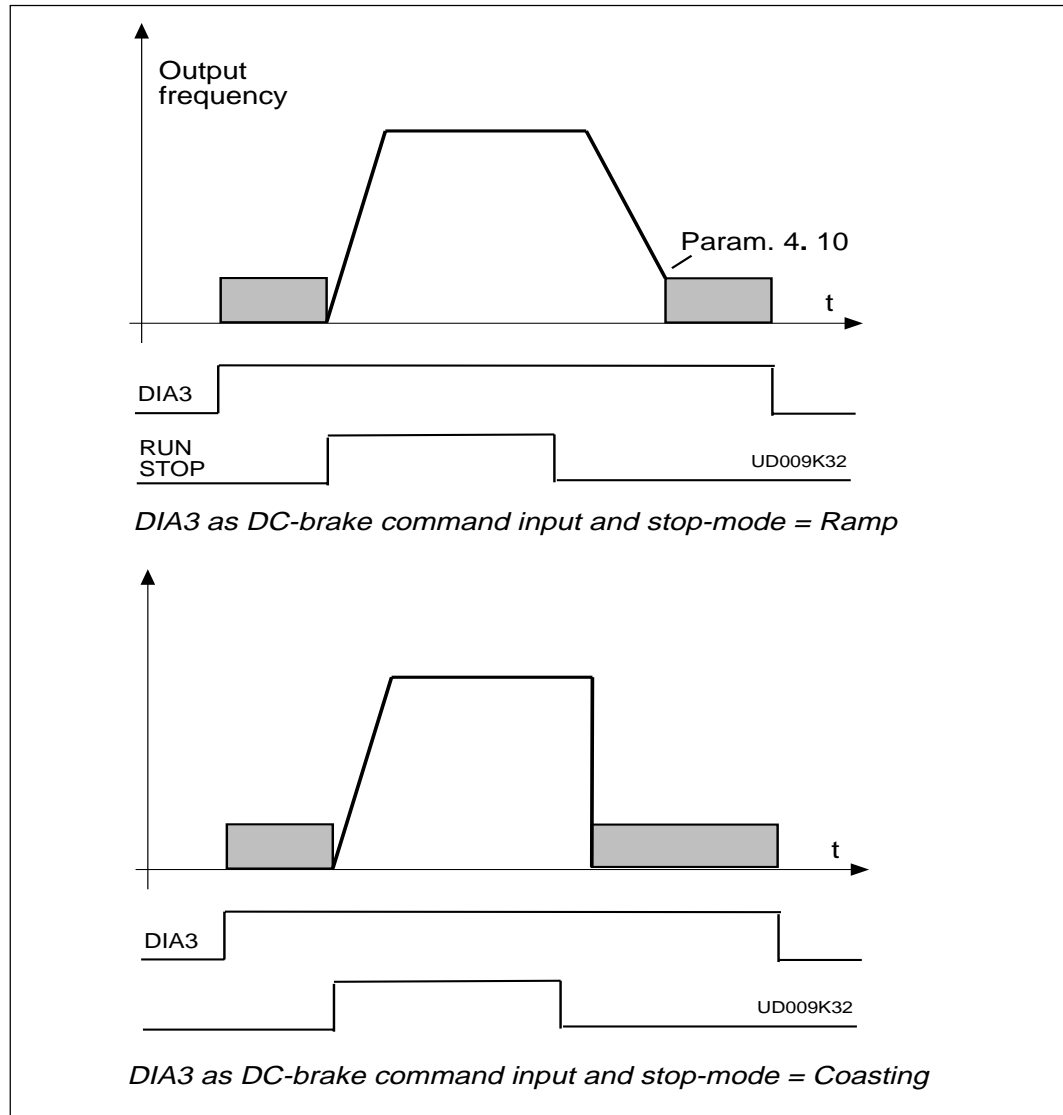

Figure 2.5-4 DIA3 as DC-brake command input: a) Stop-mode = Ramp, b) Stop-mode = Coasting.
- 9: DC-braking command        contact closed       = In the stop mode, the DC-braking operates until the contact is opened, see figure 2.5-4. Dc-brake current is set with parameter 4. 8.